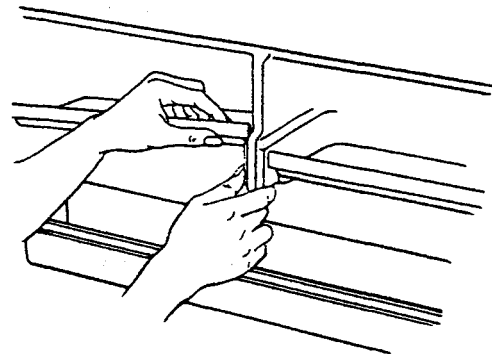

Figure 23
- To remove shelves, slide front trim right or left and up. See Figure 23.